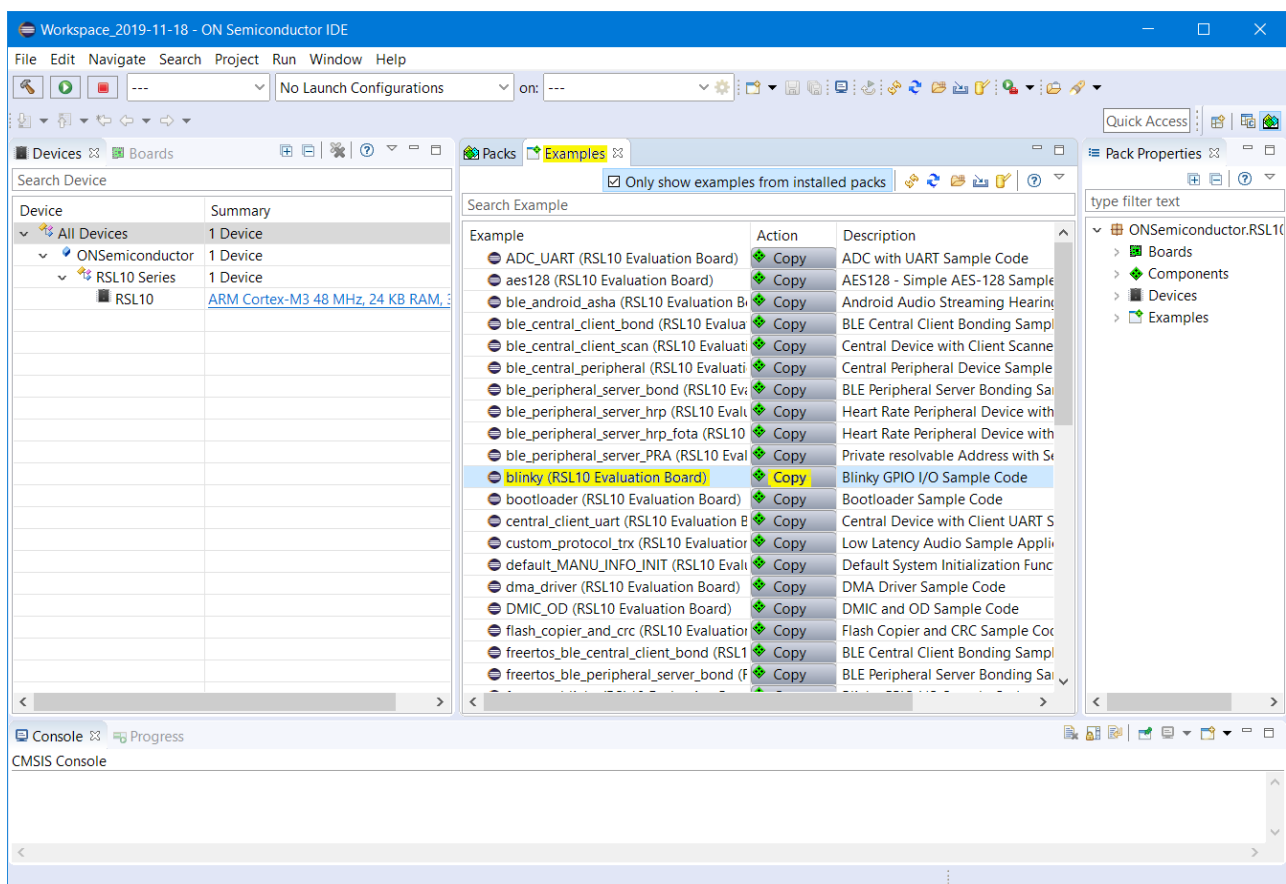

Figure 20. Pack Manager Perspective: Examples Tab
2. Choose the example project called *blinky*, and click the **Copy** button to import it into your workspace (see the figure "Pack Manager Perspective: Examples Tab" (Figure 20)). Choose a destination folder for a copy of the sample code.